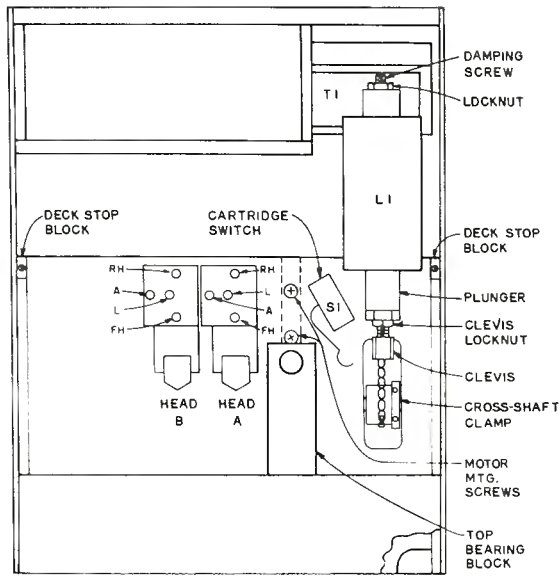
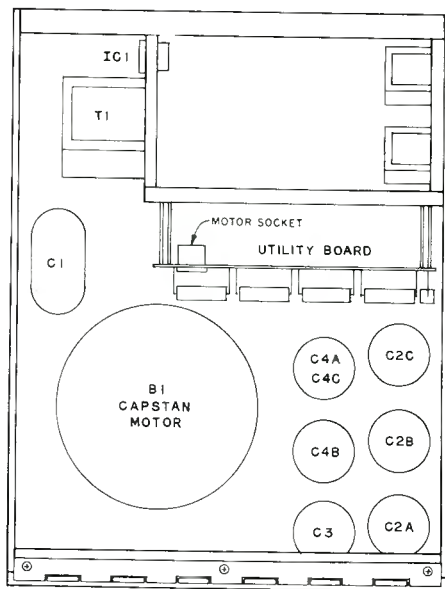

FIGURE 5-3
FIGURE 5-4
3. Remove the capstan motor plug from the socket located on the utility board (see Figure 5-4), and actuate the cartridge sensing micro switch by pushing a piece of folded cardboard or other material between the switch's actuator arm and plunger (Figure 5-3).
4. Press the front panel START switch to energize the solenoid; loosen the screws in the cross-shaft clamp (Figure 5-3). The front panel must be bolted into its closed position when adjusting sliding decks "A" and "B." Adjust the clamp screws so that the clamp is snug on the shaft but can be moved with a small amount of force.
2. If adjustment is required, loosen the clevis locknut and rotate the solenoid plunger as follows (Figure 5-3):
The adjustment procedure outlined below is applicable to all three decks. See Figure 5-3 for parts location. This adjustment in no way affects pressure roller/capstan pressure as in some machines of older design.
The adjustment procedure outlined below is applicable to all three decks. See Figure 5-3 for the location of the adjustment screws mentioned below.
The adjustment procedure outlined below is applicable to all three decks. See Figure 5-3 for the location of the adjustment screws.
recording head, for maximum playback output level while recording the 15 kHz tone (see Figure 5-3).
Diodes CR1, CR2, CR3, and CR4 are a full wave bridge rectifier which furnishes 110 volts DC to the solenoid power supply filter. The dual section filter consists of R1, R9, and the two sections of C2. The diodes and resistors are located on the Utility Power Supply board (see Figure 5-4 for the board location) while the filter capacitors are mounted on the under side of Deck C, the bottom deck (see Figure 5-4). The output of 110 volts DC (under load) is switched by the parallel contacts 7 and 11 / 8 and 12 of control relay K1. A network consisting of C13 and R17 is across the coil of each solenoid L1 for transient protection when power is removed.
Transformer T1 provides low voltage AC (with the center tap grounded) to diodes CR6 and CR7, a full wave rectifier that supplies the input to the regulated power supply. Capacitor C3 acts as an input filter. The diodes and resistors of this power supply are mounted on the Utility Power Supply board (see Figure 5-4 for the board location) while the filter capacitors are located on the under side of the deck (see Figure 5-4).
IC1 is the regulated power supply. (See Figure 5-4 for location.) The output of this power supply is +24 volts. The regulated power supply is protected by F1, a fast acting fuse. The output of the regulated power supply is represented on the schematic diagram by a triangle which is common to all other points on the schematic shown with a like symbol. R3 and C4 provide decoupling and additional filtering for the program amplifier card.